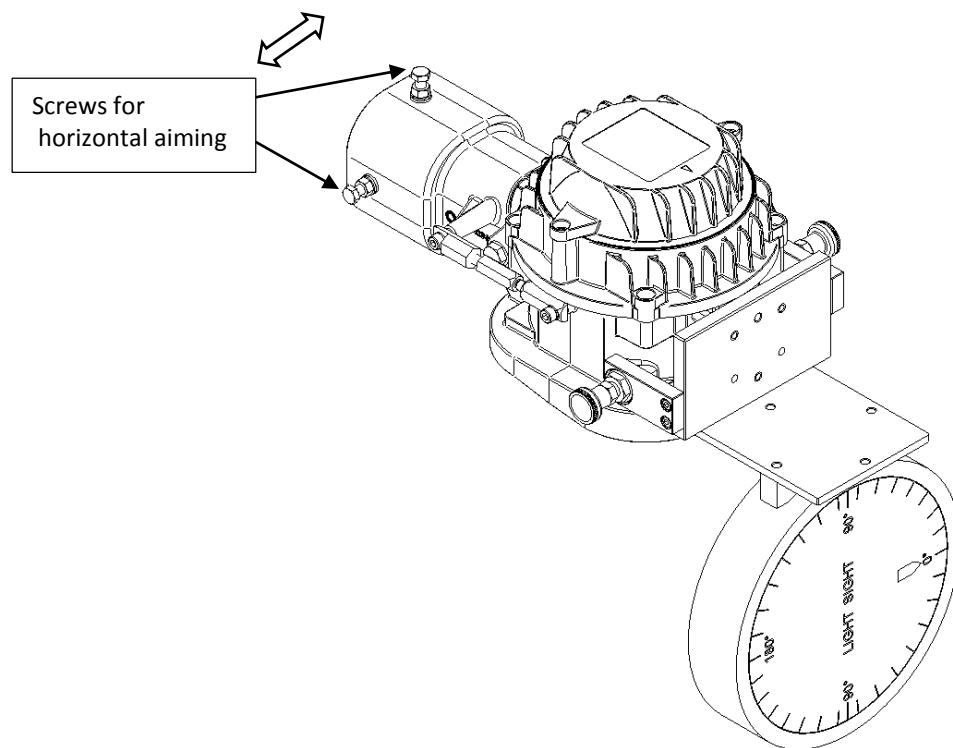

Figure 3: fixture fastening after horizontal aiming
4. Fasten the fixture by means of the four screws of the special support (fig. 3).